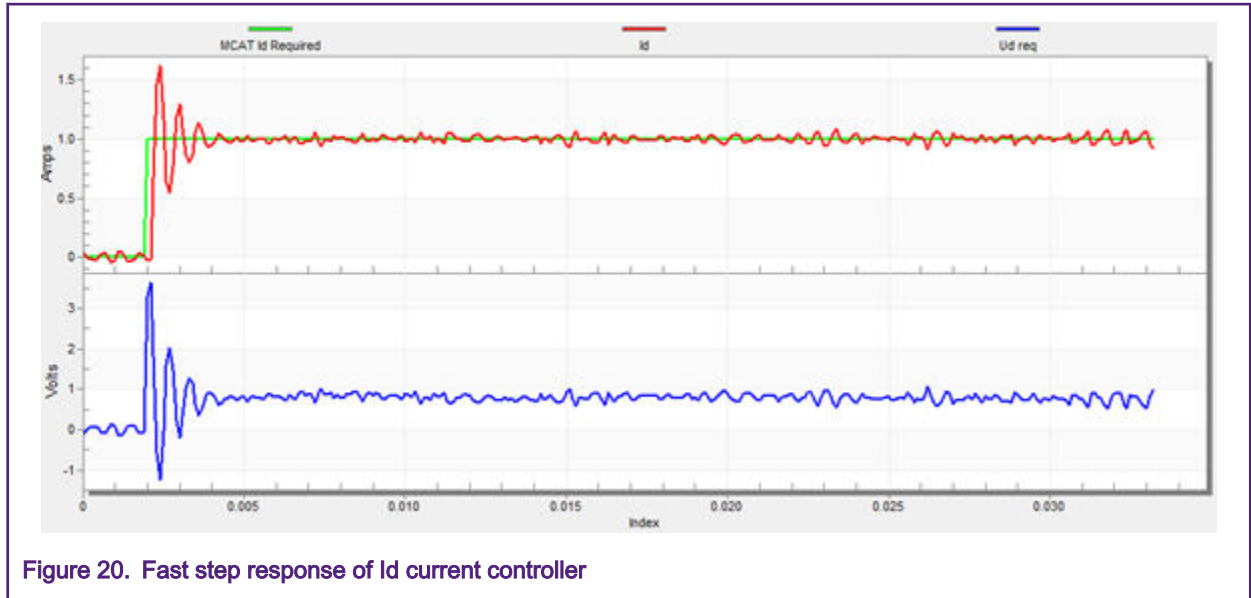

Figure 20. Fast step response of Id current controller
- The loop bandwidth is high (700 Hz) and the response time of the Id current is very fast, but with oscillation and overshoot (see Figure 20).